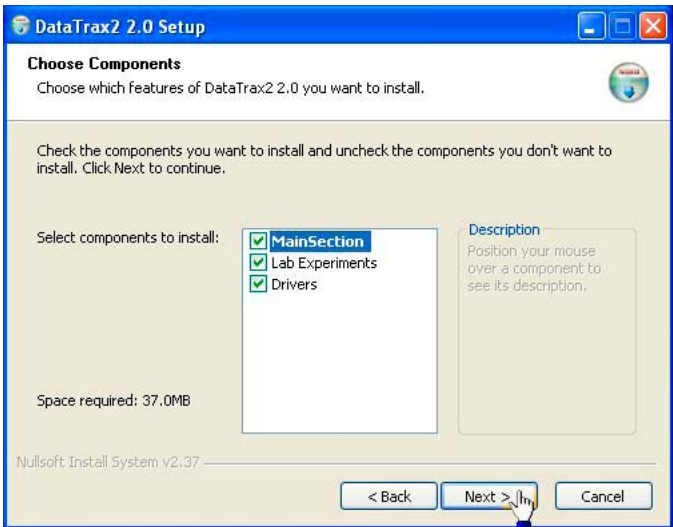

Fig. 20 —Component Choice
- After reviewing the license agreement, click the **I Agree** button. The wizard will then ask for a choice of components to install (Fig. 20).